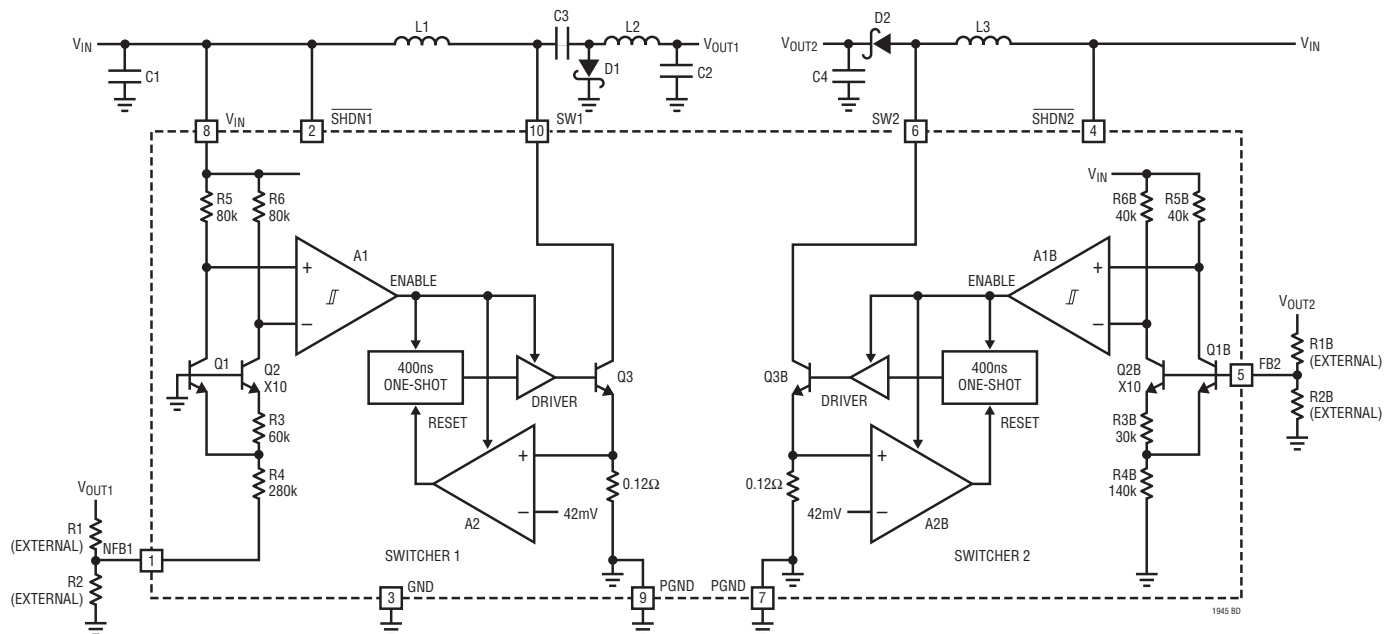

Figure 1. LT1945 Block Diagram
**Note 5:** See Figure 1 for Switcher 1 and Switcher 2 locations.
The LT1945 uses a constant off-time control scheme to provide high efficiencies over a wide range of output current. Operation can be best understood by referring to the block diagram in Figure 1. Q1 and Q2 along with R3 and R4 form a bandgap reference used to regulate the output voltage. When the voltage at the NFB1 pin is
Set the output voltage for Switcher 2 (positive output voltage) by choosing the appropriate values for feedback resistors R1B and R2B (see Figure 1).